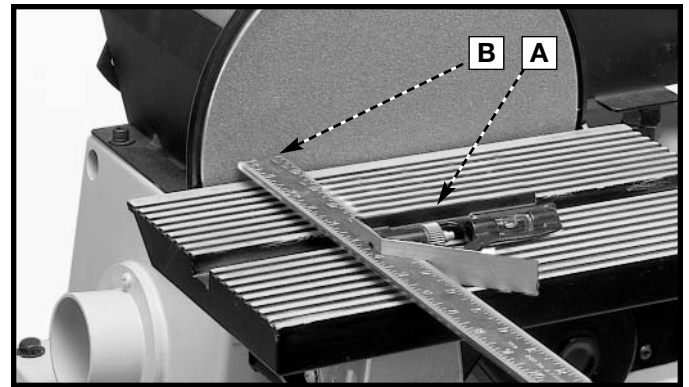

Fig. 26
1. Place a combination square with the 90 degree angle side (A) in the miter gauge slot and the other end (B) against the sanding disc. Check the distance from the slot to each end of the sanding disc (Figs. 26 and 27). This distance should be the same.